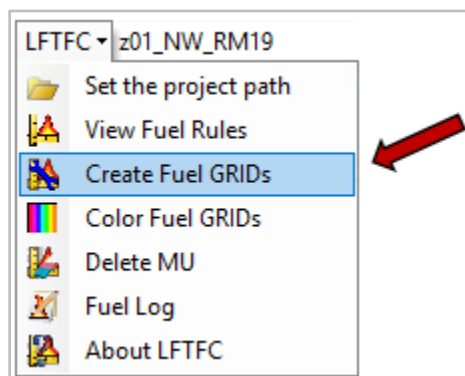

Figure 6-18. Select **Create FUEL GRIDS** on the drop-down menu.
- When the rules have been completed to your satisfaction as described above, select **Create FUEL GRIDS** on the LFTFC drop-down menu (Figure 6-18).